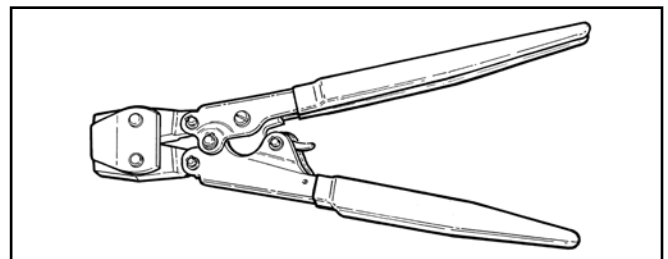

Fig. 3: 9251 SCP
3. **DIY Economy 2-Handle Ratchet Pincer** (Fig. 3)